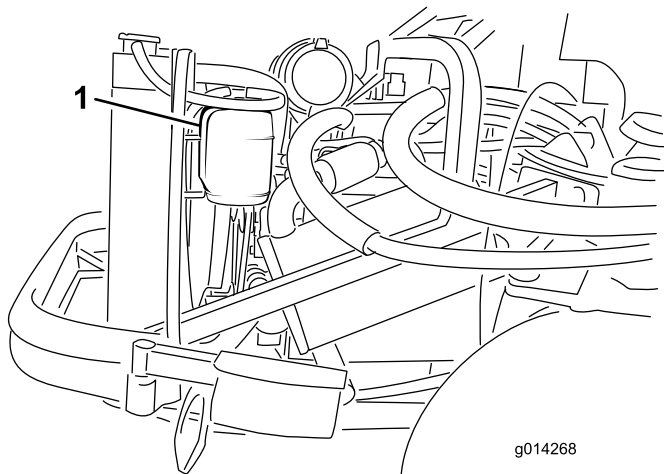

Figure 33
1. Check the level of the coolant in the expansion tank (Figure 33). The coolant level should be between the marks on the side of the tank.